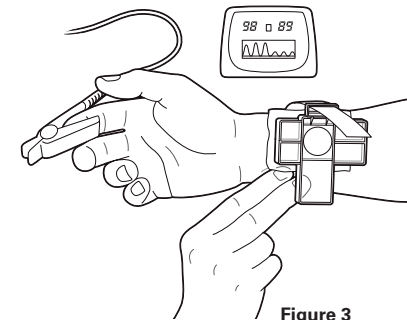

Figure 3
- Perform reverse Allen's test: Verify radial patency during compression by occluding the ulnar artery and using an oximeter at the thumb. [See Figure 3]